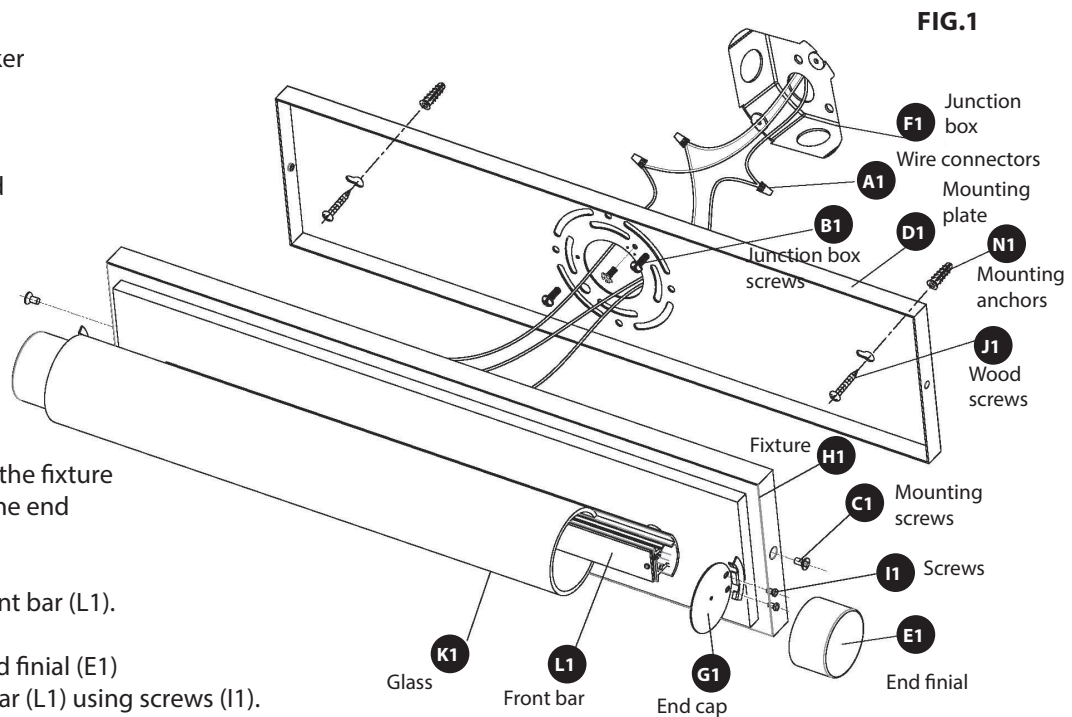

FIG.2
8. Connect the fixture wires to junction box wires as shown in Fig. 2, making sure that all wire connectors (A1) are secured. Fixture and junction box ground wires should be connected to mounting plate using green screw provided. After wires are connected, tuck them carefully inside the junction box.